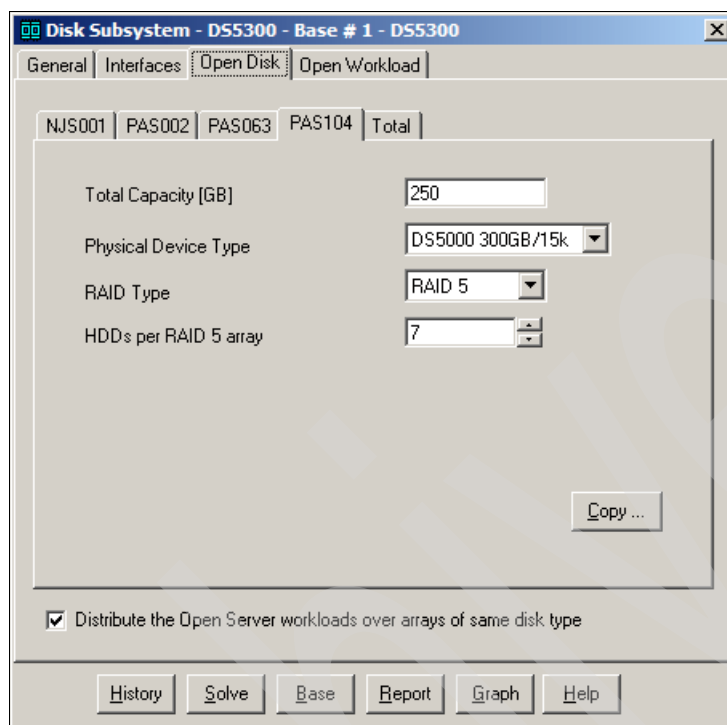

Figure 10-16 Storage server disk configuration
The measurement data generated with `iostat` or Windows `perfmon` is limited because it does not contain Storage Server configuration information such as Total capacity, Physical Device Type, RAID type, HDDs per RAID array. At this point, this configuration data can be picked up from the DS storage profile or directly from the DS Storage Manager (SM). For example, Figure 10-16 shows that the Host Server *PAS104* has been mapped to a Logical drive of 250GB in a RAID 5 array composed of seven FC 300 GB 15k Hard Disk Drives (HDD).